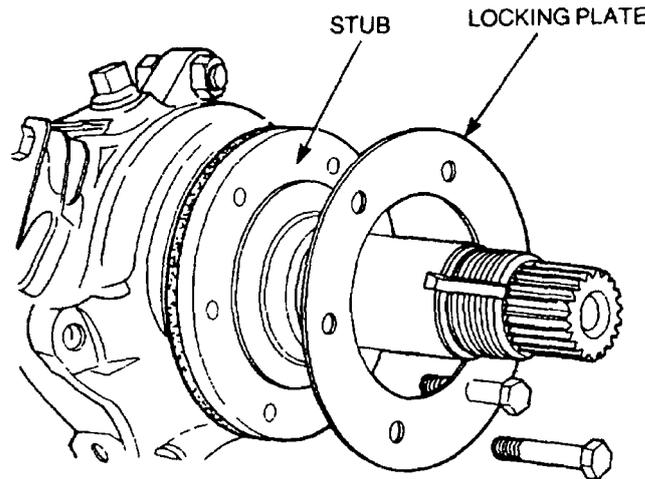

Figure 260 Removing the Stub Axle
- c. Remove the bolts and locking plate retaining the hub stub axle to the swivel housing (Figure 260) and remove the stub axle.